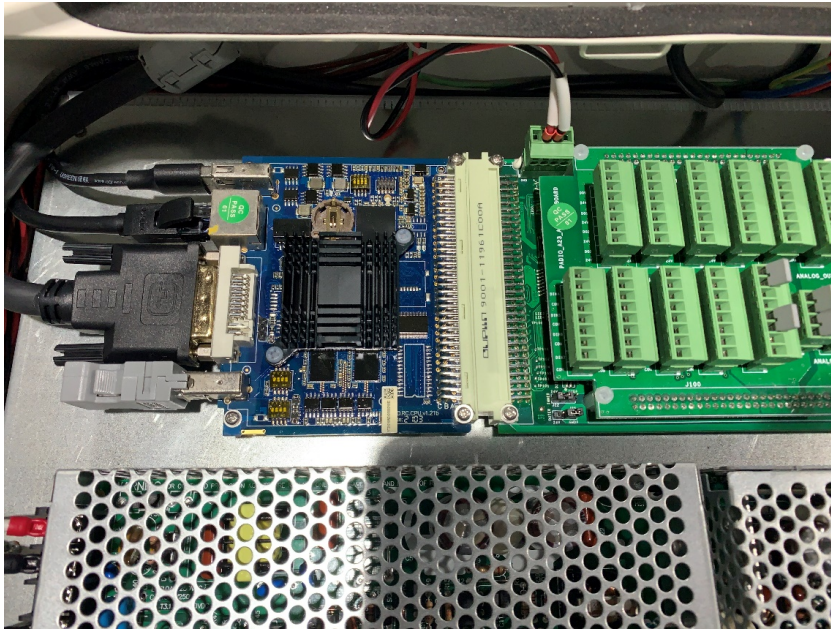

Figure 5-5 : Battery installation position
2. Open the end cover of the controller and find the installation position of the 3V button battery on the core board, as shown in **Figure 5-5** .